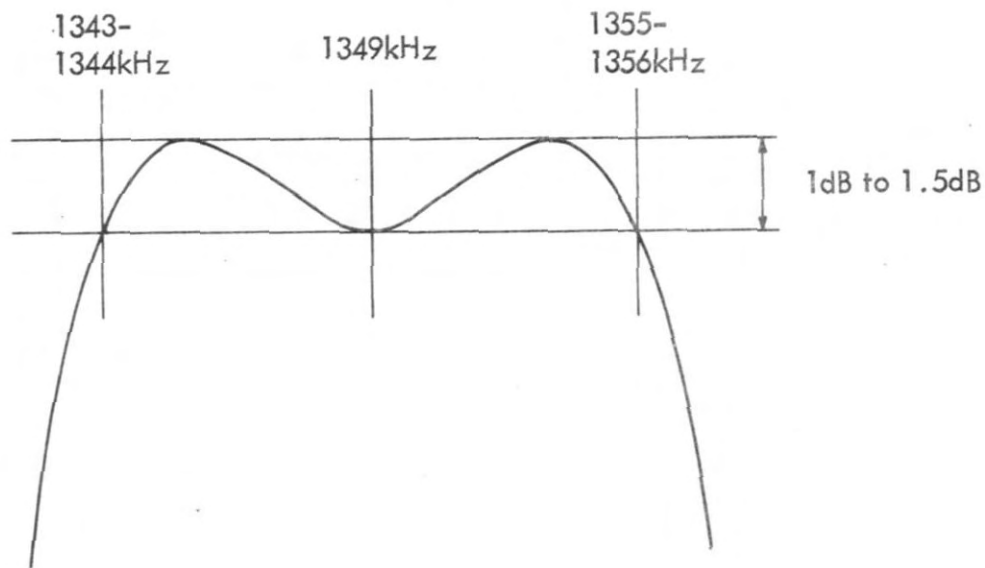

Fig. 4.3.1. Frequency response at Test Point 1.
3. Remove lid of Tunable IF module and using the high impedance probe at test point 1 adjust L1-4 to obtain the response shown in Fig. 4.3.1.
4. Select range 5, adjust the FINE TUNE control over its full range and check that, although the frequencies change, the shape of the curve in Fig. 4.3.1. remains substantially the same. If the shape alters it is probable that one of the varicap diode circuits D1-D4 is faulty. Remove the Spectrum Analyser.
6. Remove the 10k $\Omega$  resistors connected at step 2, reduce the generator output to give 30mV at TP1 and check that the response is as shown in Fig. 4.3.1. Remove Signal generator and RF millivoltmeter.